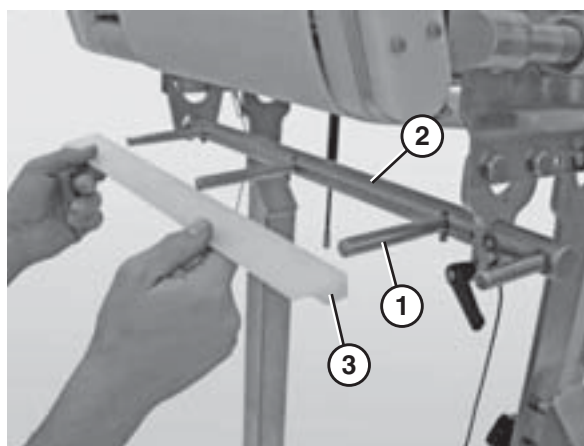

Figure 10
4. Attach the scraper bar holders (Figure 10, item 1) to the scraper shaft (Figure 10, item 2).
5. Attach the UWHM scraper (Figure 10, item 3) to the scraper bar holders (Figure 10, item 1).